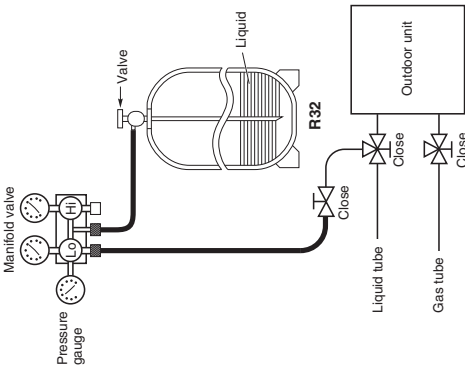

Fig. 7-1
- Charge additional refrigerant (calculated from the liquid tube length as shown in "1-4. Tubing Size") using the liquid tube service valve. (Fig. 7-1)